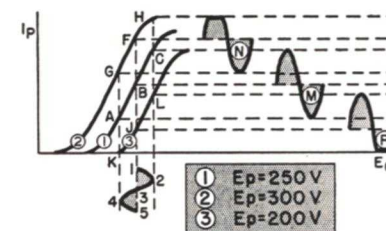

FIG. 5. Incorrect plate voltage can also move the operating point to where distortion becomes excessive.
**Plate Voltage Changes.** Distortion like that in Fig. 4 will also occur if the plate voltage changes and the grid bias remains fixed. Fig. 5 shows how.
Remember that changes in screen voltage will have much the same effect as improper plate voltage. The distortion shown in Fig. 5 will occur if screen grid voltage changes make the tube operate over a curved part of its characteristic curve.
► As another example, suppose there is no voltage across resistor 46, and the grid-cathode voltage of the 75 tube is normal as measured across resistor 61, yet distortion clears up when you touch the top cap of the 75 tube and the chassis. This, you have learned, shows excess bias—even though the bias appears to be correct. But remember, Fig. 5 showed that the correct bias depends on the plate voltage. Evidently, then, the plate voltage has decreased, so what appears to be a correct bias is actually excessive.